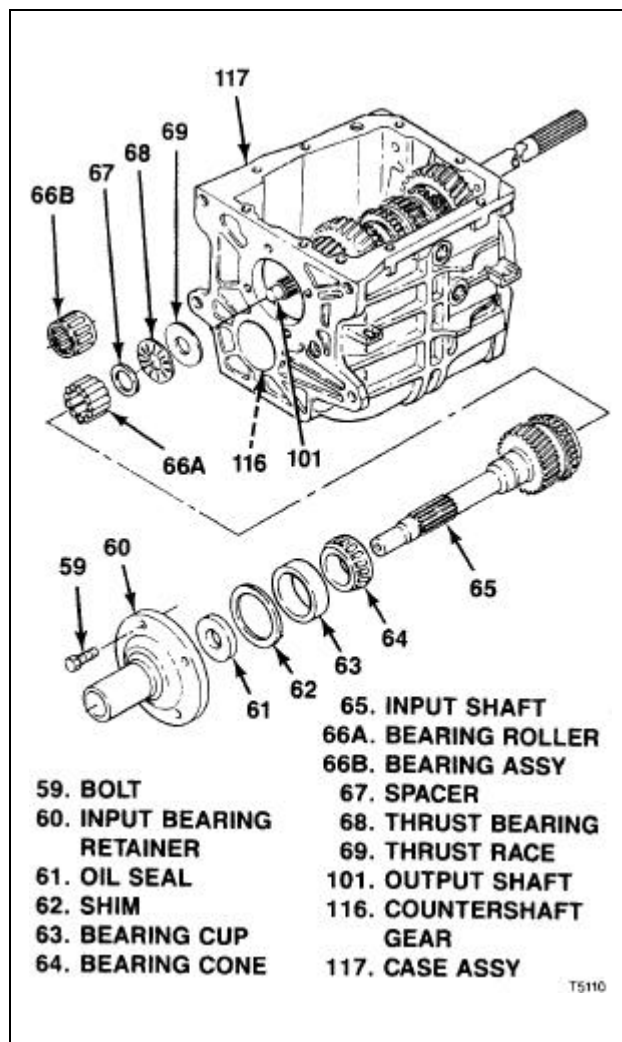

Figure 3-8. T5 WC Input Shaft
Make alignment mark on input bearing retainer (60) and transmission case (117) and proceed as follows (see figure 3-8):
- a. Remove bolts (59).
- b. If necessary, use suitable knife to break sealant bond between input bearing retainer (60) and transmission case (117). Pull bearing retainer straight out.
- c. Use suitable puller to remove oil seal (61) from input bearing retainer (60).
- d. Remove shim(s) (62) and bearing cup (63).